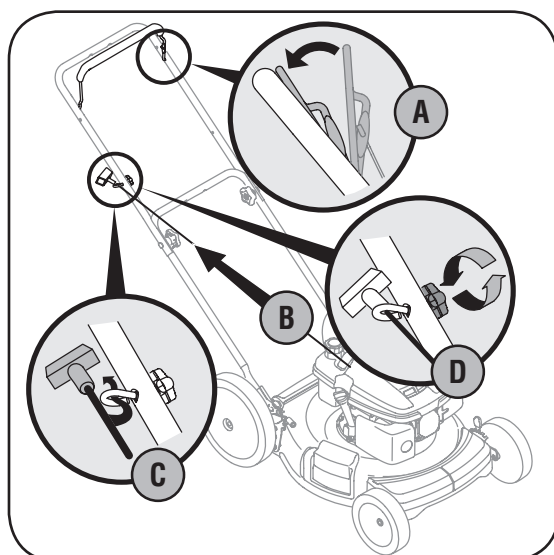

Figure 3-4: Pull recoil starter through rope guide and tighten.
4. The rope guide is attached to the right side of the upper handle, Figure 3-4. Loosen the wing nut which secures the rope guide.